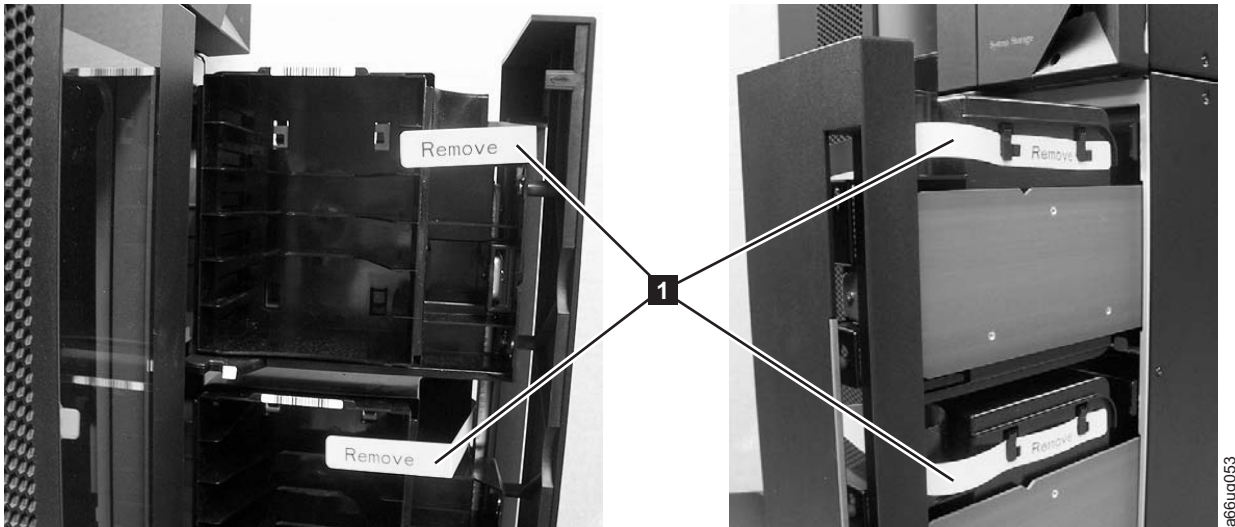

Figure 4-2. Yellow ribbon-like packing pieces
5. Remove the yellow ribbon-like packing pieces (**1** in Figure 4-2 on page 4-4) from around the I/O Station magazines.